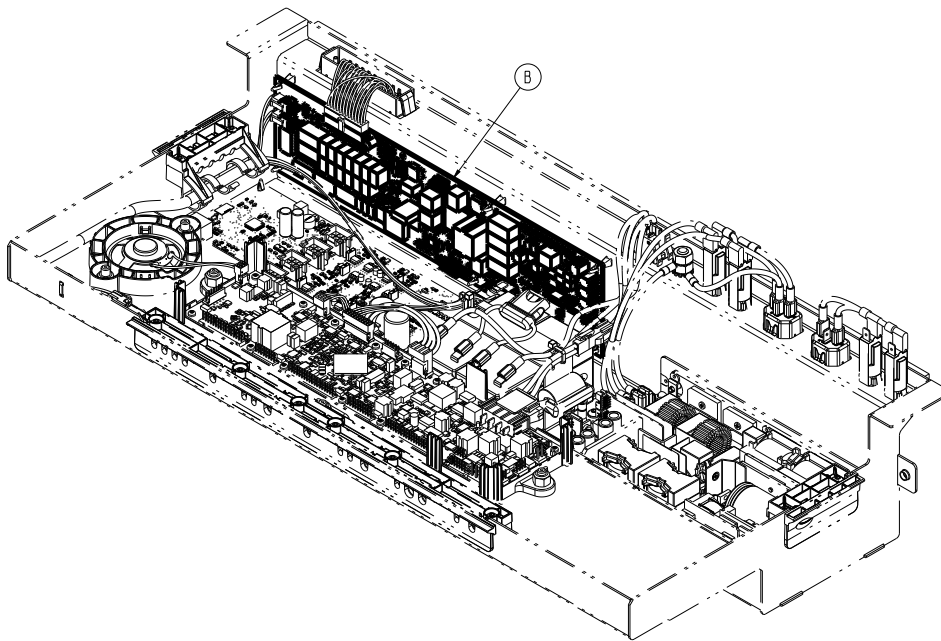

Figure 32 – Replacing the room interface board
13. Using needle nose pliers, unclip the eight locking standoffs that secure the room interface board (B) to the electronics box assembly (Figure 32).